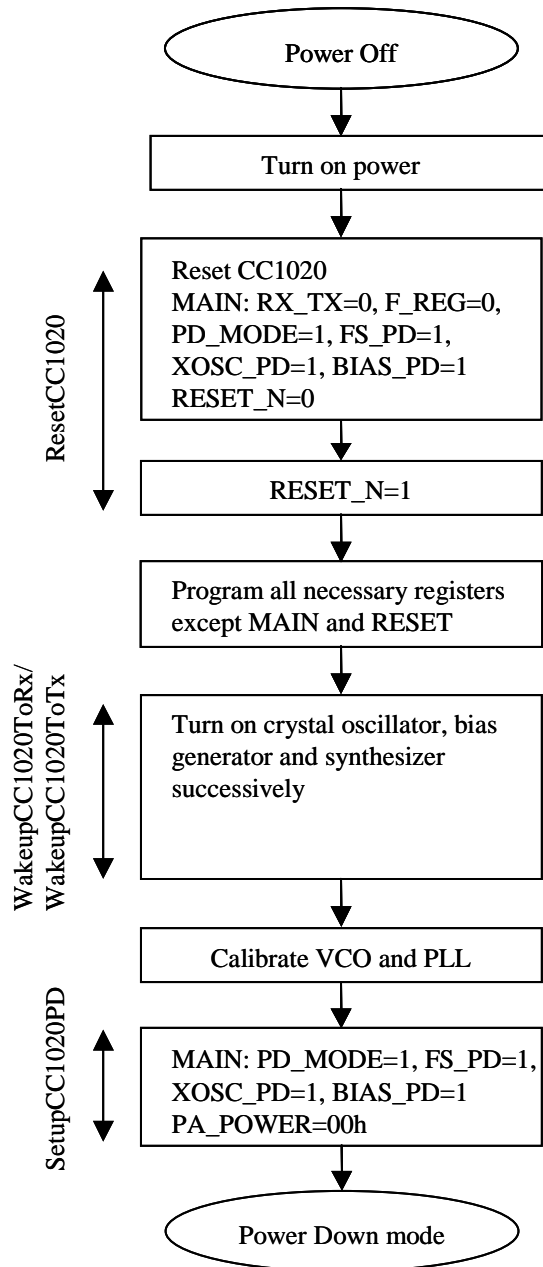

Figure 30. Initialising sequence
**CC1020** offers great flexibility for power management in order to meet strict power consumption requirements in battery-operated applications. Power down mode is controlled through the *MAIN* register. There are separate bits to control the RX part, the TX part, the frequency synthesizer and the crystal oscillator in the *MAIN* register. This individual control can be used to optimize for lowest possible current consumption in each application. Figure 30 shows a typical power-on and initializing sequence for minimum power consumption.